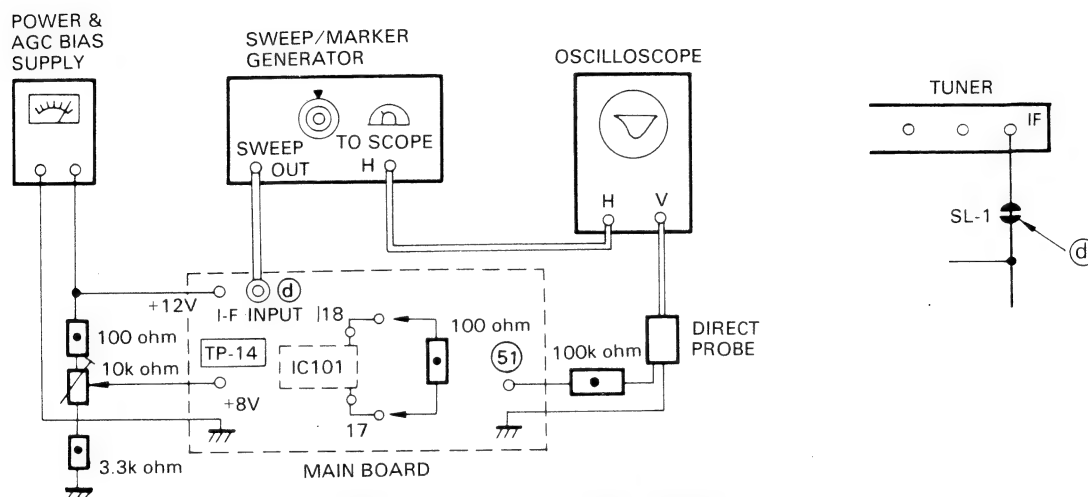

Figure 10. Picture I-F Sweep Alignment
GENERAL ..... Refer to Figure 10 for test equipment connection.
PRELIMINARY STEPS ..... 1. Disconnect the solder link SL-1 (● see Figure 10) on the foil side of the Main Board.
SWEEP/MARKER GENERATOR ..... Connect to the point ④ as shown in Figure 10 on the Main Board.
PRELIMINARY STEPS ..... 1. Disconnect the solder links SL-1, SL-3, SL-4 (● see Figures 10 and 13) on the foil side of the Main Board.